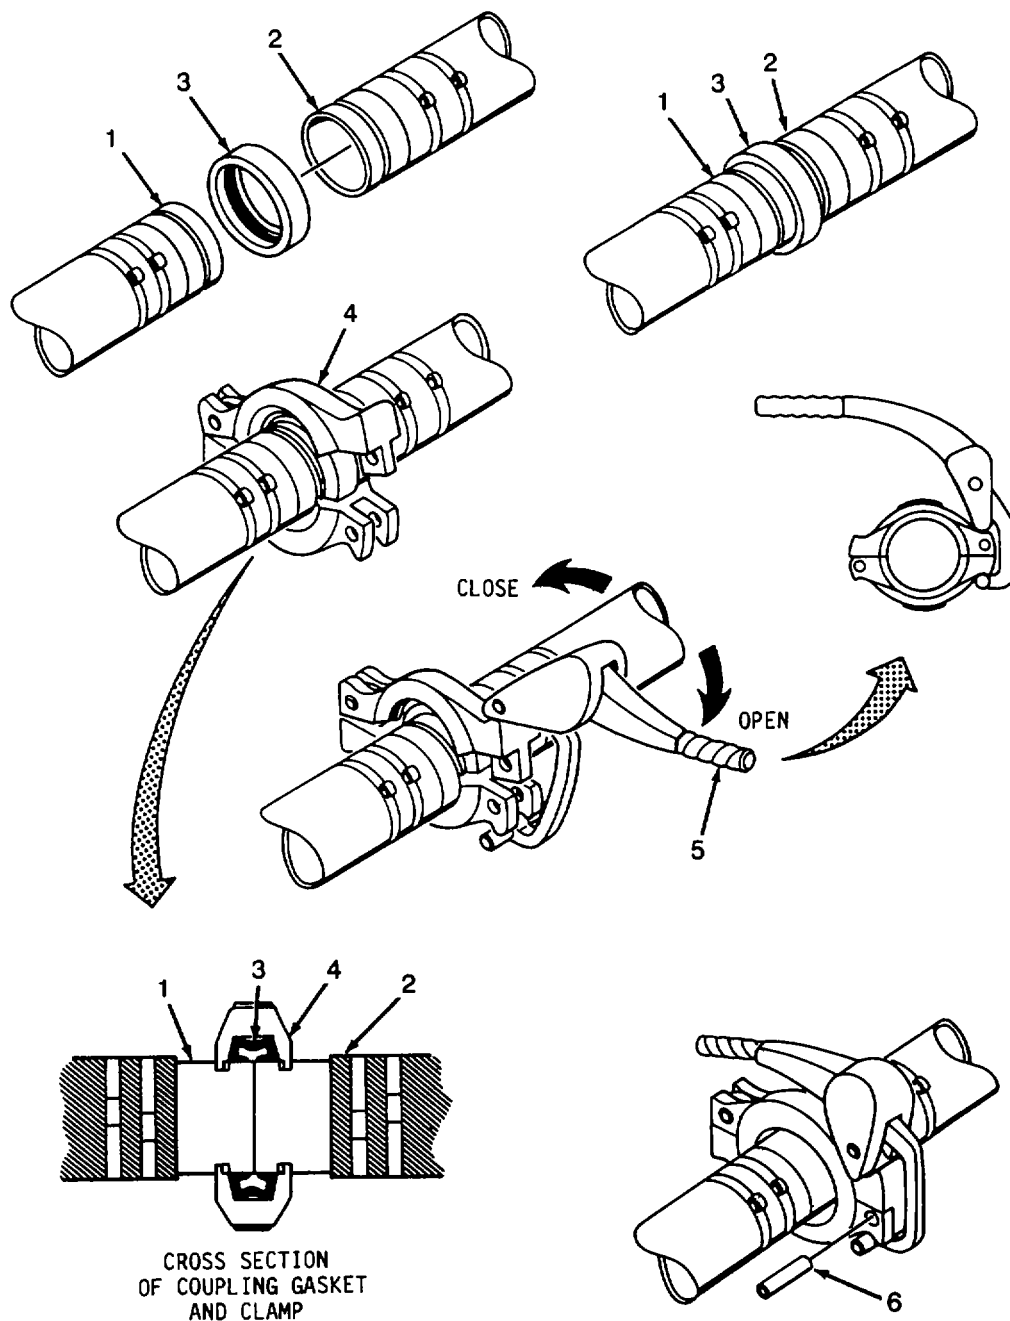

Figure 2-14. Coupling Clamps Removal.
- (10) Using a hammer, drive locking pin (6) through locking pin holes in both halves of coupling clamp (4) Make sure locking pin is sticking through both halves of clamp.
- (11) Pull handle of assembly tool (5) away from coupling clamp (4) and remove tool.
*Removal Refer to figure 2-14.*
- (12) Position assembly tool (5) on coupling clamp (4) and push tool handle toward coupling clamp (5).